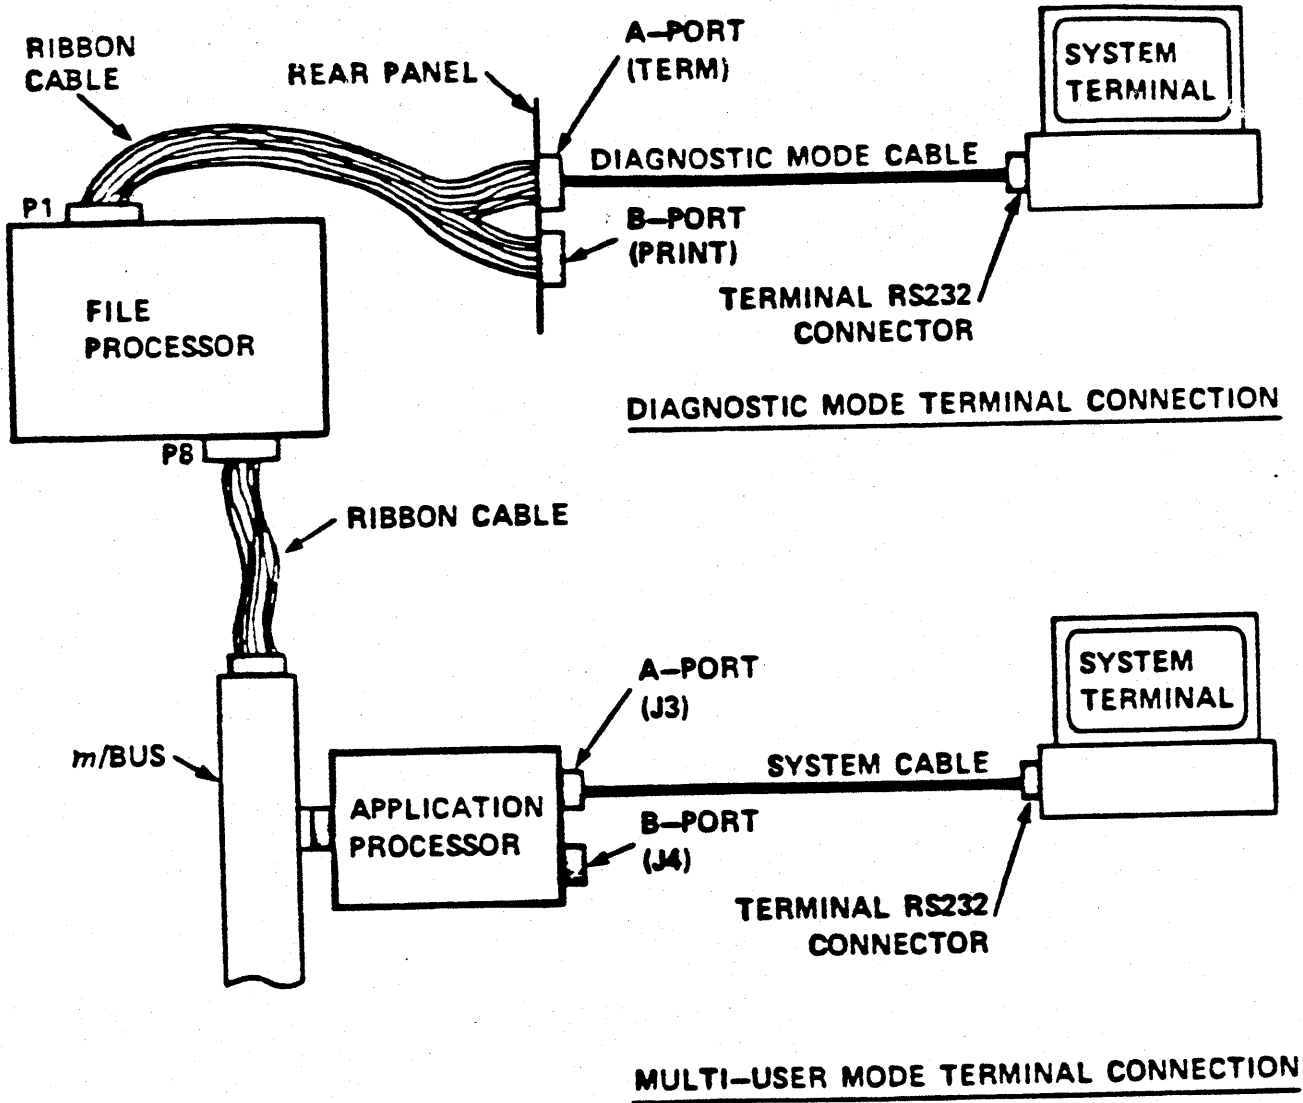

Figure 5-1. Diagnostic Mode Cable Configuration.
To use the LTAPE program in the off-line mode, all users must log off and the system must be configured for Diagnostic Mode, using a Diagnostic Mode Cable between the File Processor terminal I/O port and the system terminal, as shown in Figure 5-1.
1. Configure system for Diagnostic Mode operations by connecting a Diagnostic Mode cable between the File Processor and the terminal you are using as shown in Figure 5-1.